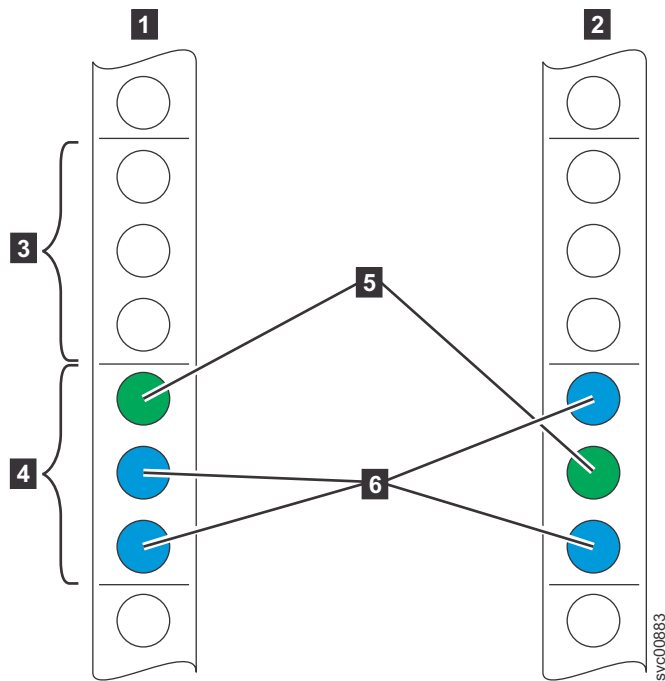

Figure 44. Identifying rack space
1. Select an available 2U space (depending on the node you are installing) in your rack to install your node, as shown in Figure 44 on page 61.